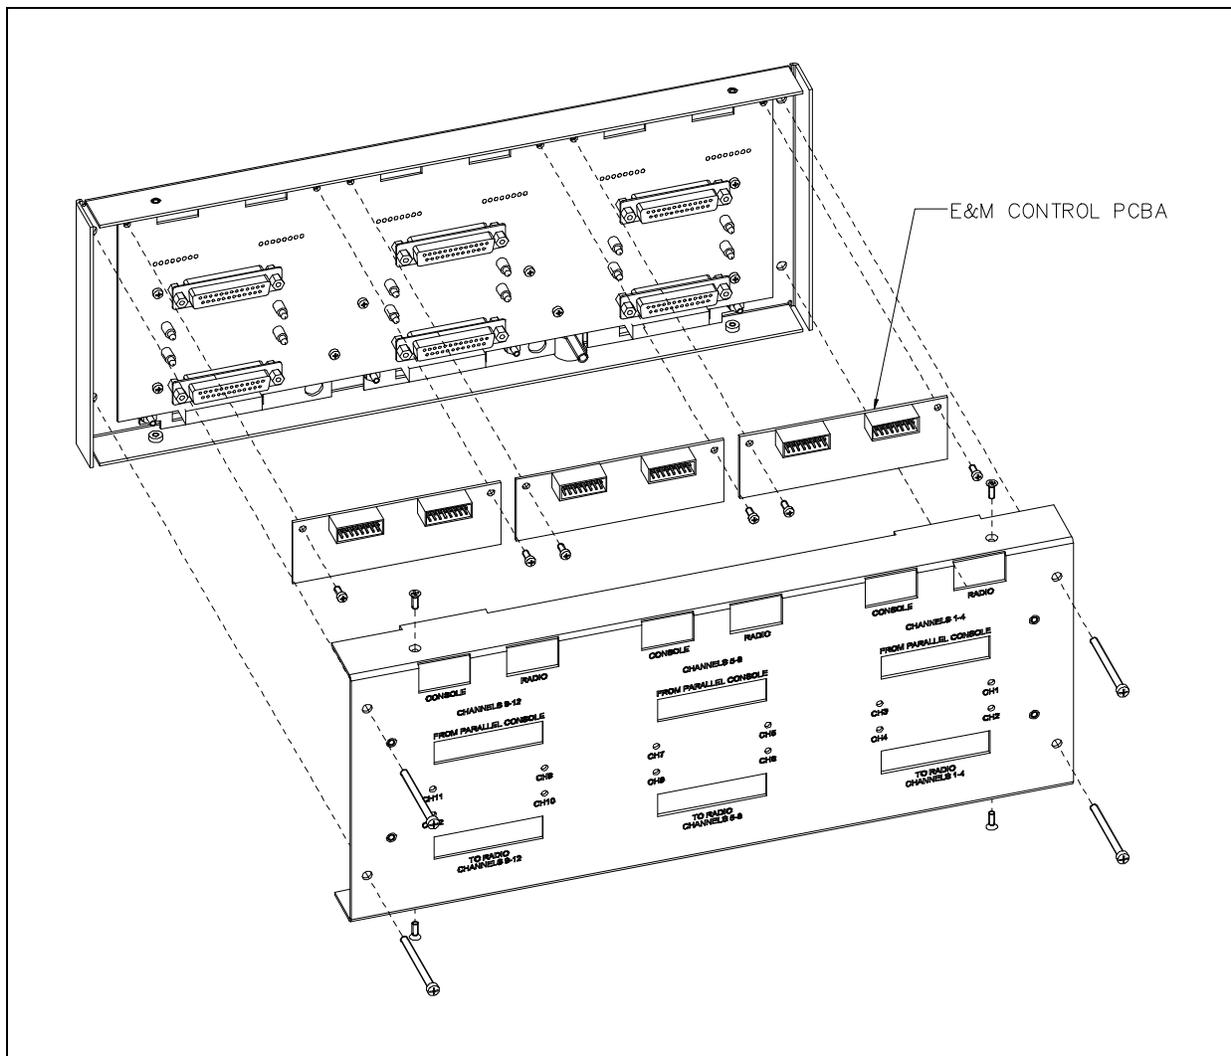

Figure 1.
2. Remove the four #4-40 flat-head machine screws from the top and bottom of the cover on the Supervisory unit. See Figure 1.
5. Attach the E&M board to the CES PCBA in the Supervisory unit by inserting the connector pins through the holes in the board as shown in Figure 1.